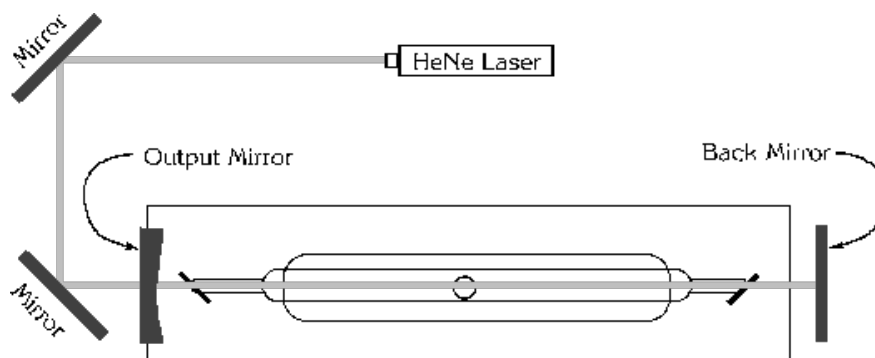

Figure 12: Alignment Configuration (note: diffraction grating not shown; it is between the back mirror and the right Brewster window)
3. Make sure the mirror closest to the HeNe laser is set up (it pivots out of the way in order to allow the CO₂ laser light to enter the spectrometer. Then block off the back mirror with a piece of paper so that reflections don't confuse matters. See Figure 12 for a suggestion on the set-up. Also remove, with vinyl gloves on, very, very, very, carefully the output coupler mirror (labeled as output mirror below). To do this, remove the plastic panel above the output mirror. Then, with your gloves on, unscrew the mirror. Once you've removed it, set it on the optical table in a safe place, with the optics down (this prevents dust and other contamination from landing on it). **Note: Do not ever attempt to clean this optic mirror.** Finally, move the diffraction grating aside for now by disengaging the rubber band which holds it into place.